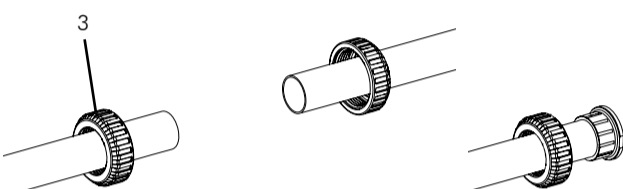
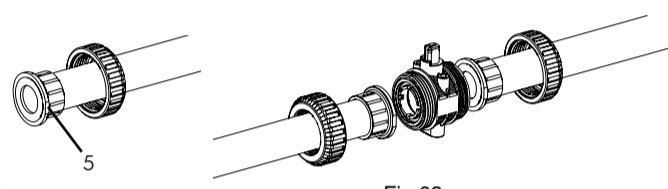

Fig.01
Fig.02
2. Adjust the valve to the installation leaving the union nut (3) Fig.01 on the tube before gluing the end connector (5) Fig.02.